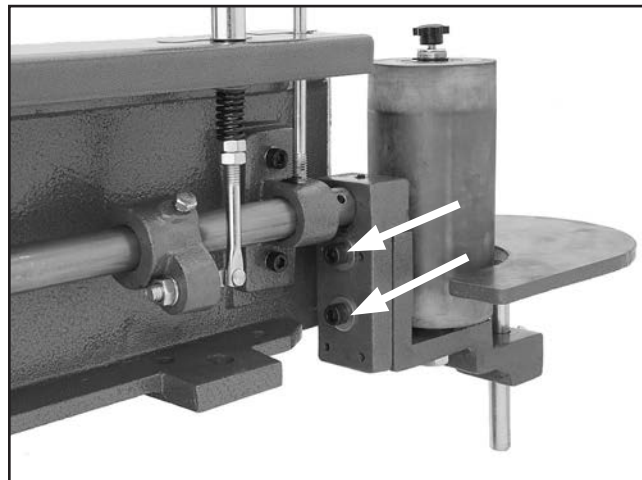

Figure 57. Idler roller adjustment cap screws.
3. Loosen the two cap screws, shown in **Figure 57**, approximately one full turn.